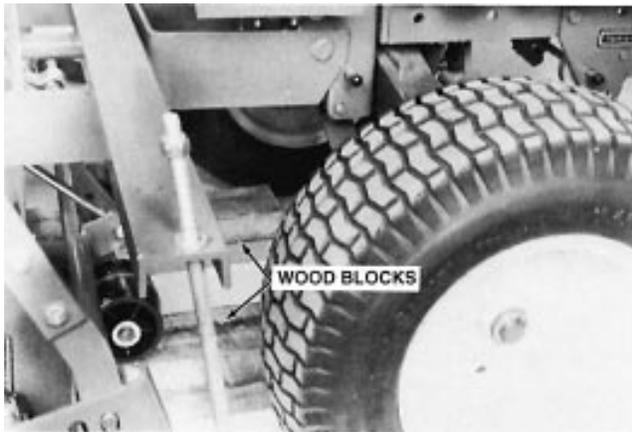

Figure 14
2. Place the mower's rear anti-scalp rollers on 3–4" thick wood blocks in front of the tractor. (Fig. 14).
8. Place the mower's rear anti-scalp rollers on 3–4" thick wood blocks in front of the tractor. (Fig. 14).